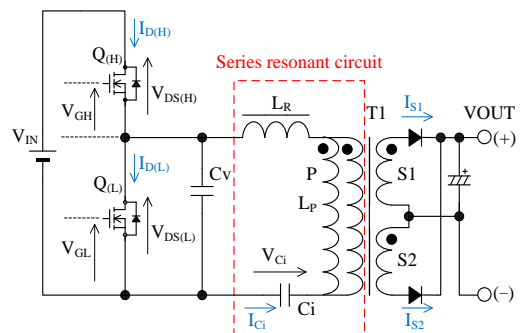
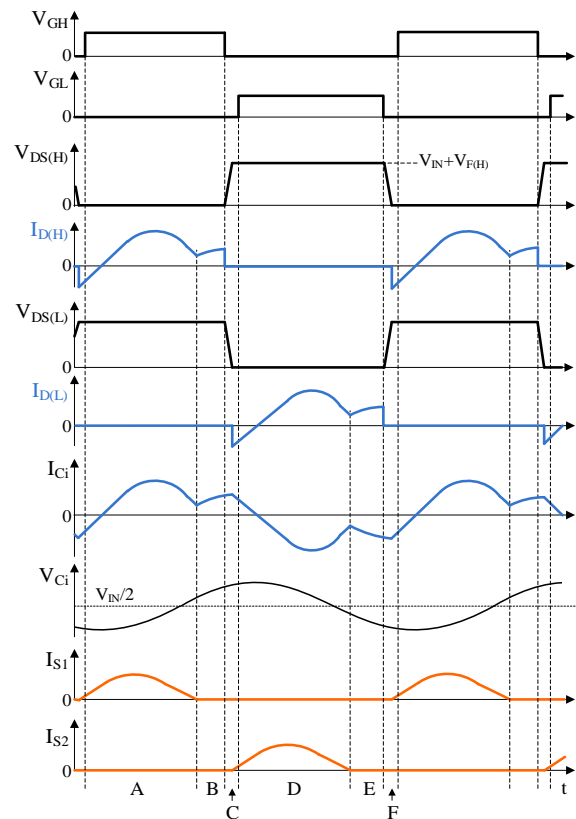

Figure 8-3. Current Resonant Power Supply Circuit
Figure 8-4. The Basic Operation Waveforms of Current Resonant Power Supply
Figure 8-3 shows the circuit of a current resonant power supply. The basic configuration of the current resonant power supply is a half-bridge converter. The switching devices, $Q_{(H)}$ and $Q_{(L)}$, are connected in series with V_{IN} . The series resonant circuit and the voltage resonant capacitor, C_v , are connected in parallel with $Q_{(L)}$. The series resonant circuit is consisted of the following components: the resonant inductor, L_R ; the primary winding, P , of a transformer, $T1$; and the current resonant capacitor, C_i . The coupling between the primary and secondary windings of $T1$ is designed to be poor so that the leakage inductance increases. This leakage inductance is used for L_R . This results in a down sized of the series resonant circuit. The dotted mark with $T1$ describes the winding polarity, the secondary windings, $S1$ and $S2$, are connected so that the polarities are set to the same position as shown in Figure 8-3. In addition, the winding numbers of each other should be equal. From Equation (1), the impedance of a current resonant power supply is calculated by Equation (5). From Equation (4), the resonant frequency, f_0 , is calculated by Equation (6).
Figure 8-4 describes the basic operation waveform of current resonant power supply (see Figure 8-3 about the symbol in Figure 8-4). For the description of current resonant waveforms in normal operation, the operation is separated into a period A to F. In the following description: